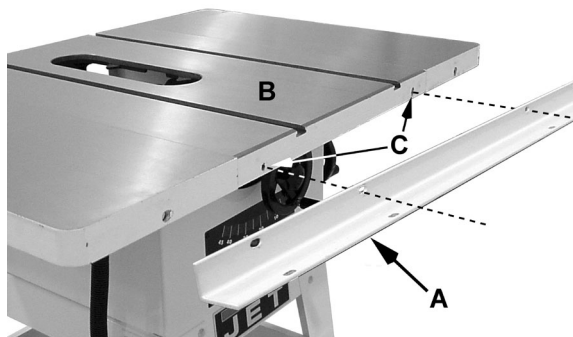

Figure 1
Referring to Figures 1:
2. Identify the *front rail* (A), which is 2" x 2" with slots running along each side.
3. Align the slots on the *front rail* to the four holes in the front edge of the saw table (Figure 1).